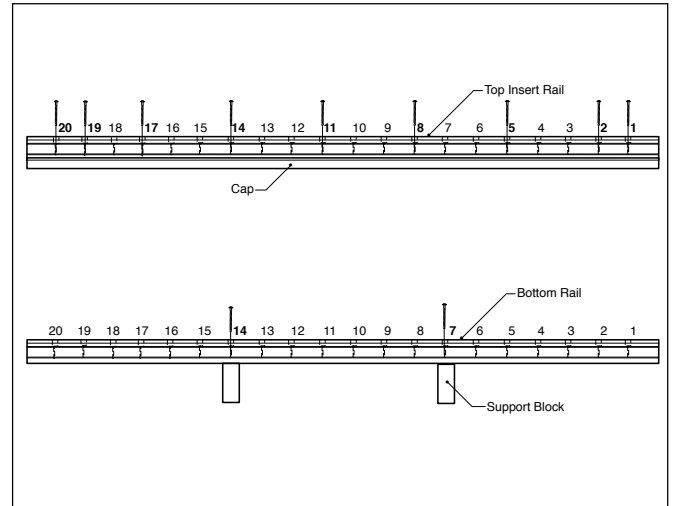
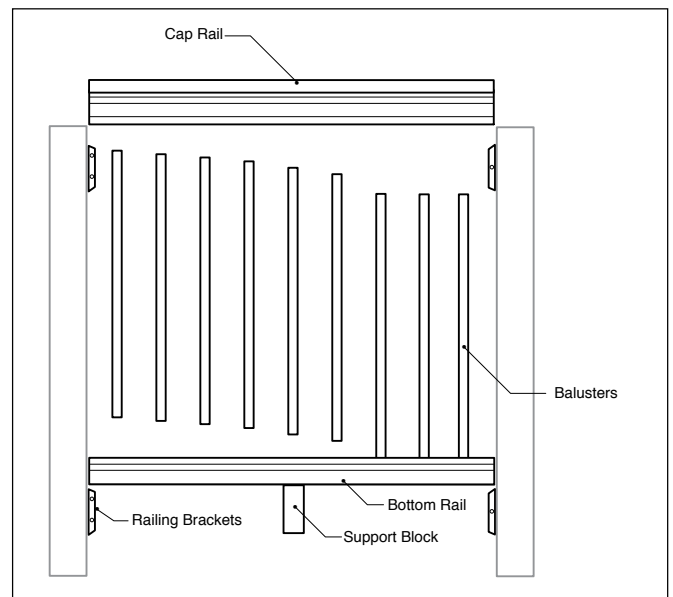

Fig. 1
Fig. 2
Step 2: Place the moulded cap rail upside down on a flat surface. Next, place one of the 2x4 rails into the moulded cap rail channel so that the holes are facing up. Starting from either end, fasten the top 2x4 to the cap rail using the (9) 3" screws through holes 1, 2, 5, 8, 11, 14, 17, 19 and 20. If rails are trimmed, predrill any additional holes with a 1/8" drill bit and insert the screw into the next nearest hole. **(Fig. 1)**
Step 3: Attach two support blocks on the bottom of the bottom 2x4 rail using 4" screws. The support blocks install under holes 7 and 14. If your rail was trimmed, divide the overall length by three to determine support block spacing and install under the holes closest to this measurement. If the holes have not been predrilled, predrill with a 1/8" drill bit. **(Fig. 1)**
Step 4: Attach the (4) 2x4 railing brackets to the posts according to the included instructions.
Step 5: Attach the bottom 2x4 rail, with the holes facing up, using the 2x4 railing brackets. Insert the balusters into the predrilled holes. **(Fig. 2)**
Step 6: Attach the cap rail by aligning the holes to the baluster at one end of the rail and working your way to the opposite end, ensuring that all of the balusters are secured between the two rails. **(Fig. 2)**